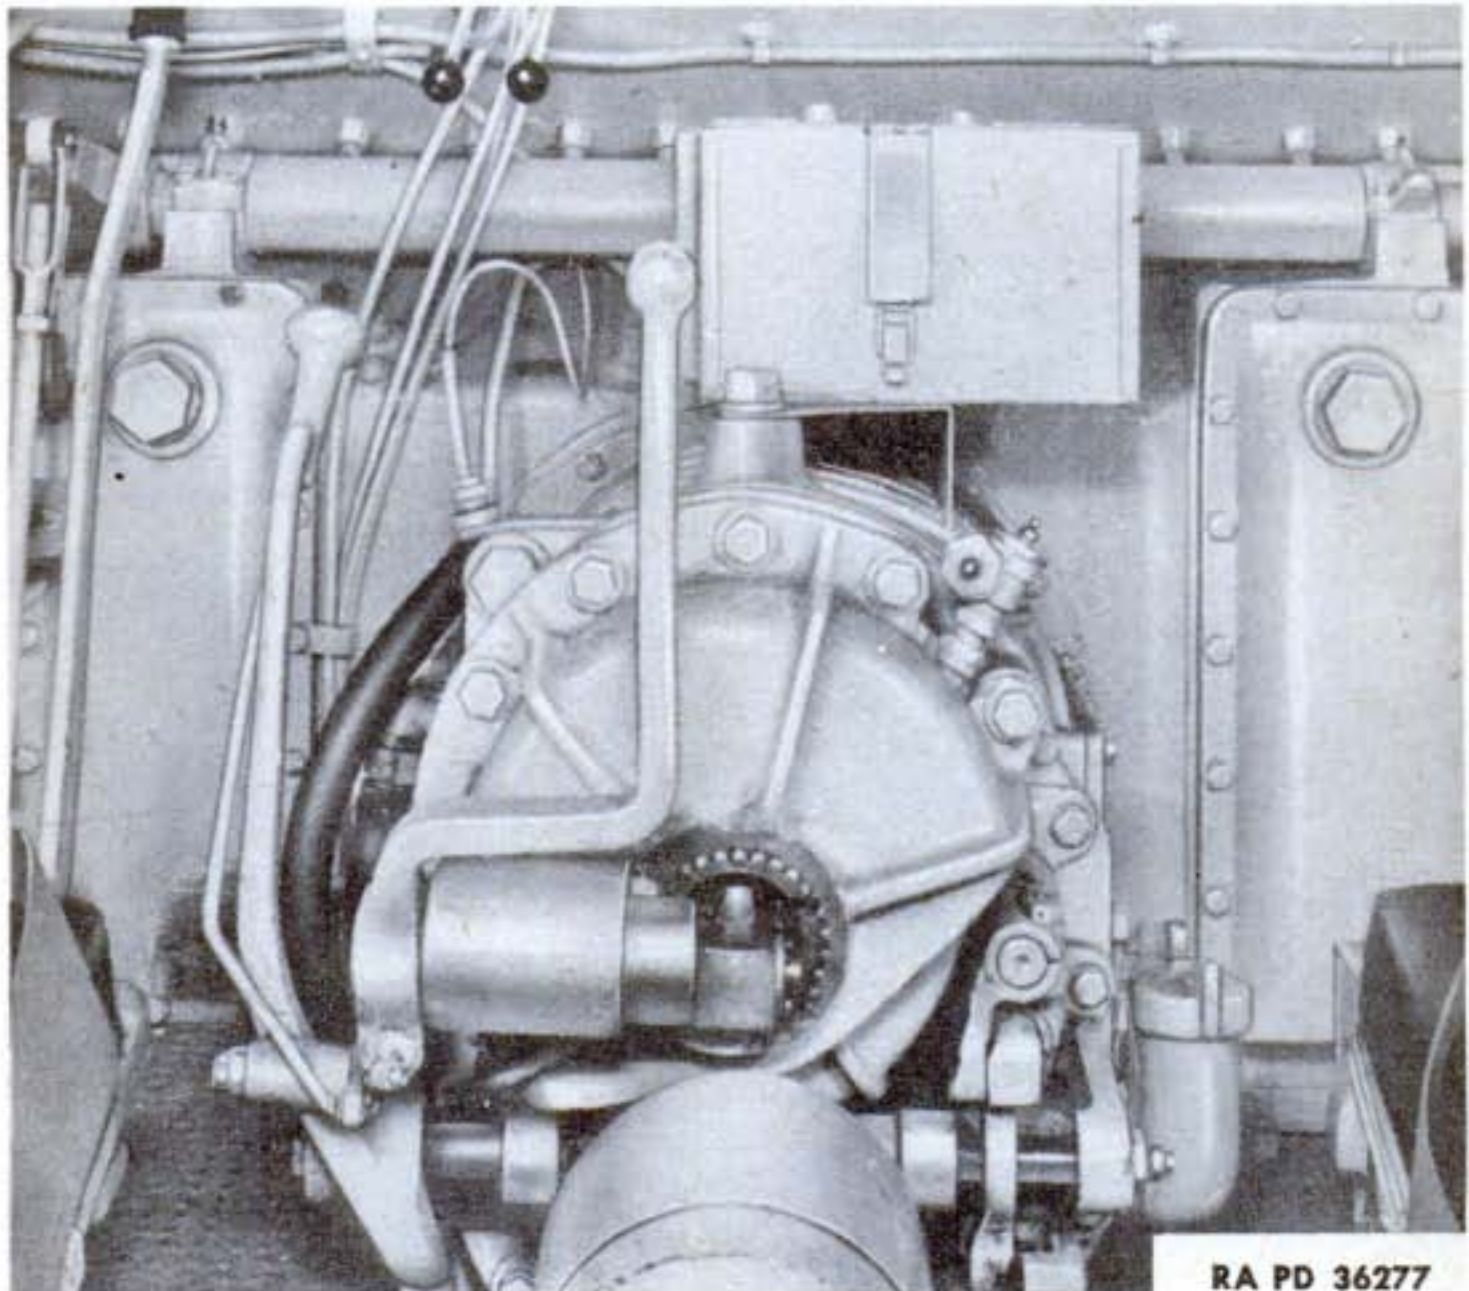

Figure 16—Transmission Parking Brake
(2) **TRANSMISSION PARKING BRAKE.** On earlier model vehicles the parking brake (fig. 16) is mounted on rear of transmission, and operated by a lever to right of gearshift lever. To apply parking